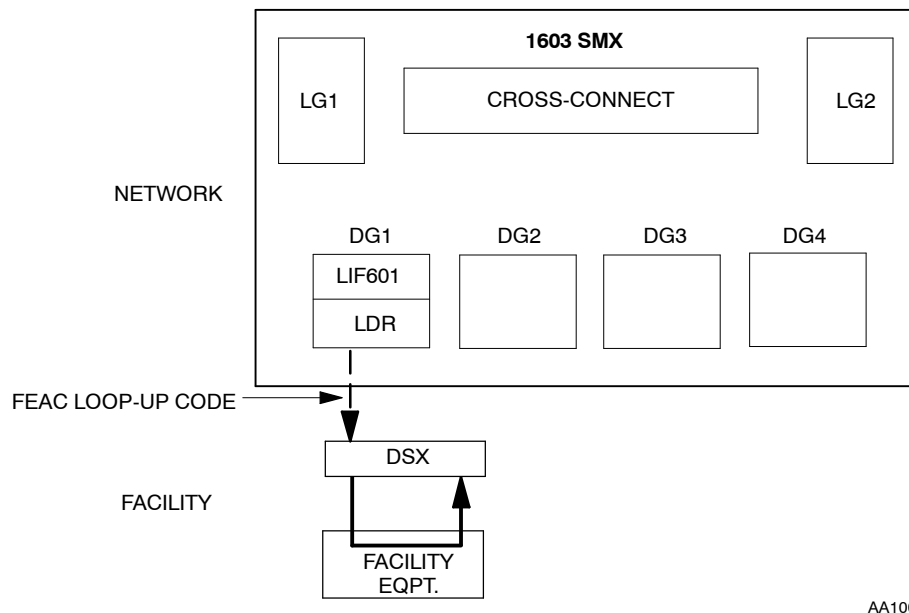

Figure 3. Sending FEAC Loop-up Code to Facility Equipment
- 9 See Figure 3. If far-end facility equipment can accept loop-up code, perform the following (requires LIF601):